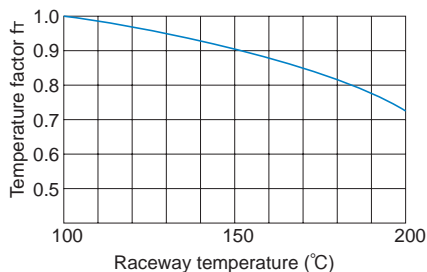

Fig.3 Temperature Factor (f_T)
- f_T : Temperature factor (see Fig.3 on A-557)
If the temperature of the environment surrounding the operating model ST exceeds 100°C , take into account the adverse effect of the high temperature and multiply the basic load ratings by the temperature factor indicated in Fig.3.